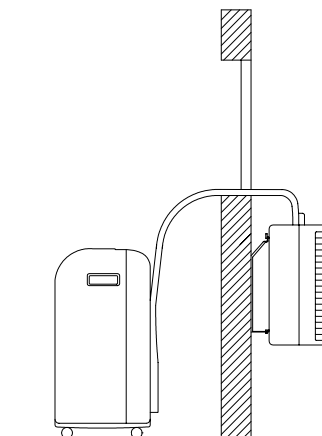

Fig. 8
2. Hang the outdoor unit in the wall holders and secure it with the screws supplied M4 (Fig. 8 and 9).